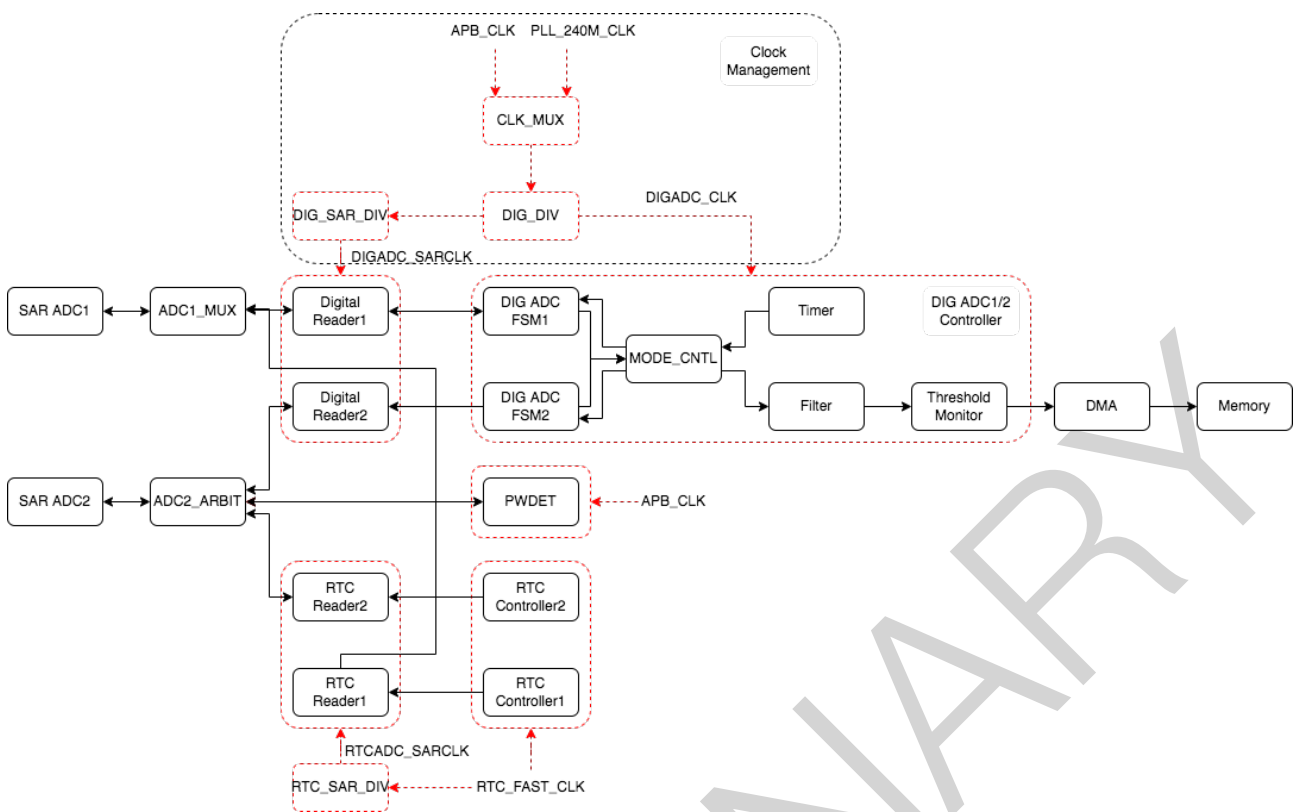

Figure 36-8. SAR ADC Architecture
- Each SAR ADC controller has its own ADC Reader module. See Figure 36-8.
The major components of SAR ADCs and their interconnections are shown in Figure 36-8.
As shown in Figure 36-8, the SAR ADC module consists of the following components: